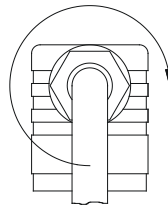

Fig. 9
- ☞ Press the core ⑧ into the cable socket ② until it locks into place.
- ☞ Put the central screw ⑥ in the cable socket ② and tighten the screwed cable gland ⑤ M16x1,5 (→ Fig. 9).